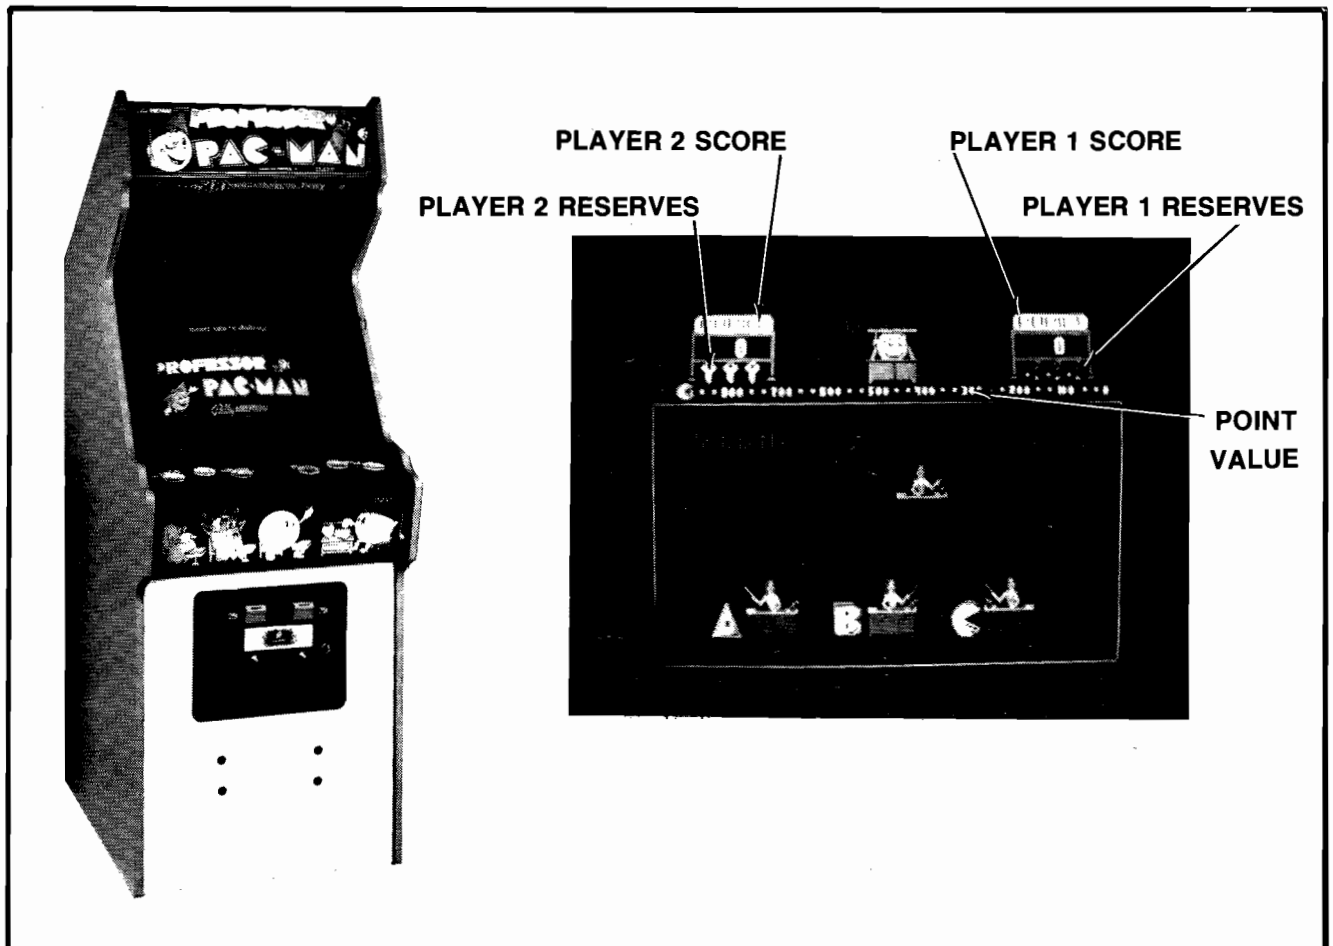

Figure 1-1 On Screen Graphics During Play
**PROFESSOR PAC-MAN** is a one or a two player game with a color T.V. monitor. The game gives a display which has all the parts shown in Figure 1-1